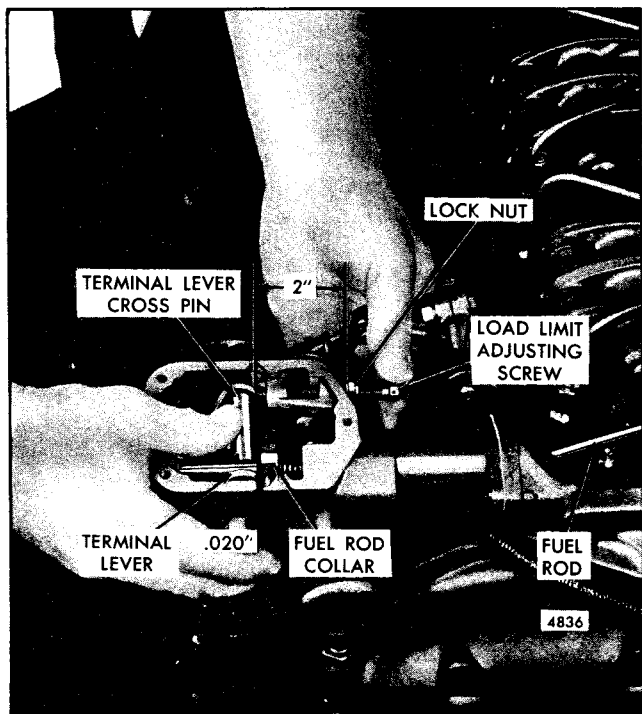

Fig. 3 - Adjusting Load Limit
1. Loosen the lock nut (Fig. 3) and adjust the load limit screw to obtain a distance of approximately 2" from the outside face of the boss on the governor sub-cap to the end of the screw.